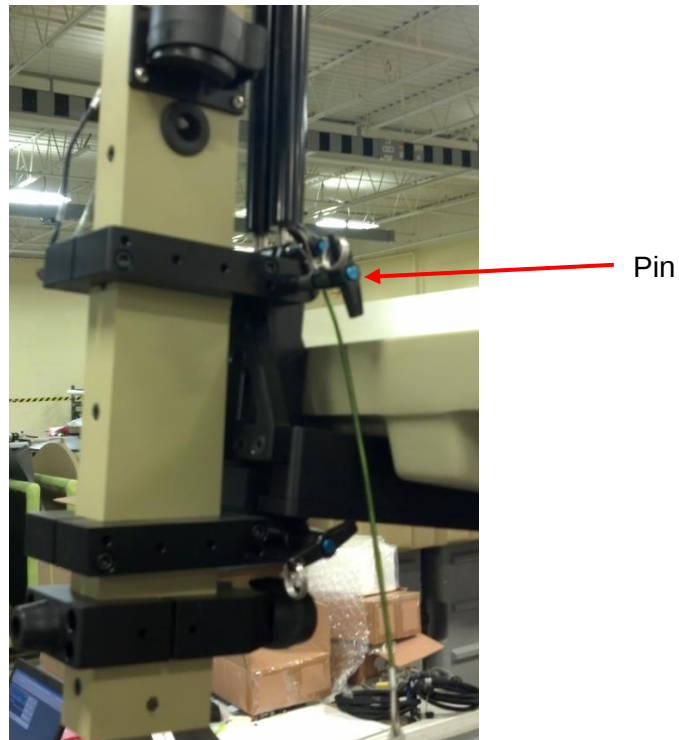

Figure 36. Locking the Feed Boom in Deployed State
22. Replace the final captive ball detent pin on the feed boom to secure the feed boom to panel 1 as shown in Figure 36.